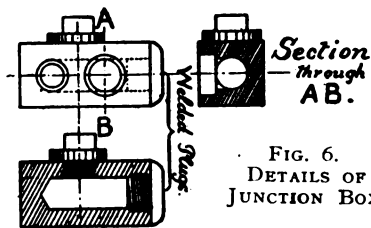

FIG. 6.
the intermediary junction-box (see Fig. 6), and finally this coil is welded to coil (4), again using a junction-box to effect the weld. The coils are first coiled separately and wired to the bearers (5), leaving the ends projecting upwards to enable the welds to be made. When the welds are completed, the ends are bent down into their correct positions and wired.
The screw plug shown in Fig. 6 is to enable a small quantity of water to be introduced before lighting up to raise sufficient steam to start the engine.